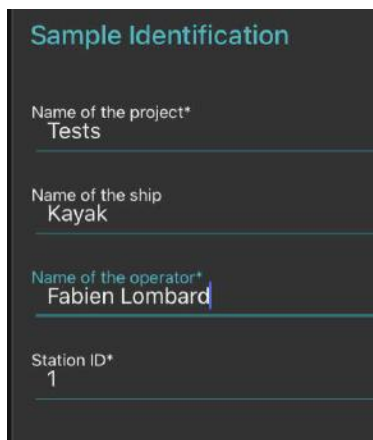

Figure 1: Sample ID parameters
- **Fill the sample identification** (project, name, ship used, your name and the station number; Fig.1)